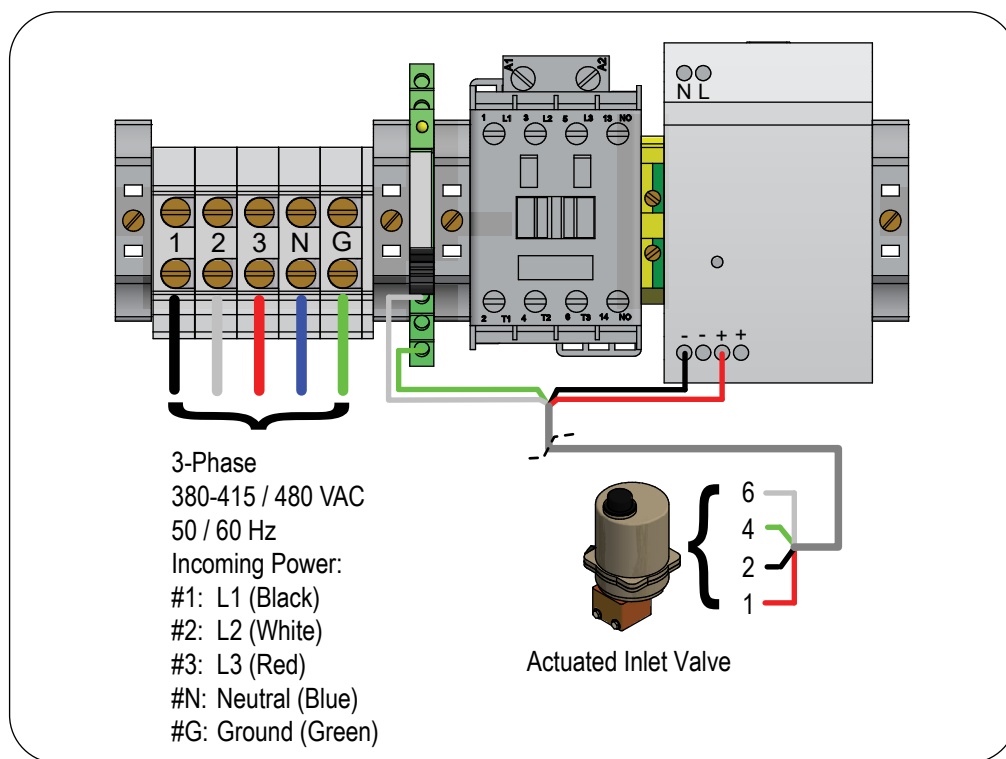

Figure 24: Wiring for Systems with 380-410/480 VAC and Inlet Actuated Valve
If you are installing the optional actuated valve in place of a low pressure pump, refer to *Figure 23* or *Figure 24* and wire the actuated valve to the connector block.
- For systems with 380-415/480 VAC and inlet actuated valve, attach the wires to the contactor block's terminals marked #1, #2, #3, #N and #G (Figure 24).